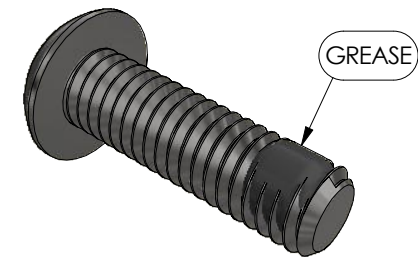

FIGURE 1
- Add a miniscule smear of grease to screws intended for 3d printed parts. This eases installation and aids in anti-galling. Use low RPM screwdriver for installation. Power tighten to 85% and hand tighten to 100%. **See Figure 1 below.**